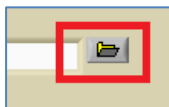

Figure 4.6: The Folder Button
- Click the folder button located right of the **Logo Image** field; see Figure 4.6.